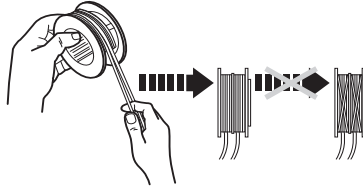

Fig. 24d
10. Wind the two parts of the trimming line in clockwise direction firmly around the spool each part in the guide on the spool. (See Fig. 24d)